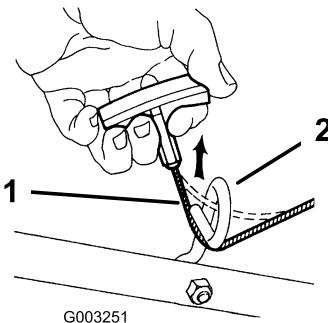

**Figure 3**
1. Unfold the handle as illustrated in Figure 3 and Figure 4.